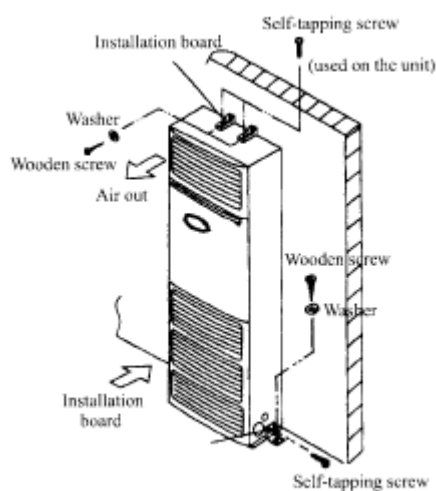

Fig. 18
2. Use attached installation boards to fix the unit firmly to the wall and the ground. (See Fig. 18).